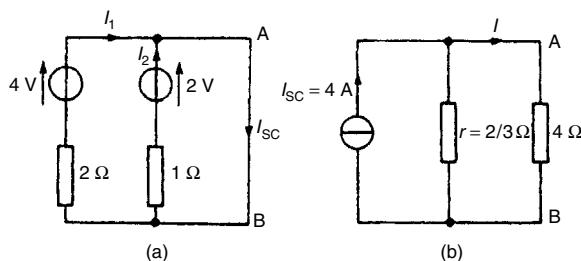

Figure 13.56
- (i) The 4Ω branch is short-circuited as shown in Fig. 13.56(a)
- (ii) From Fig. 13.56(a),
- (iv) From the Norton equivalent network shown in Fig. 13.56(b) the current in the 4Ω resistance is given by: